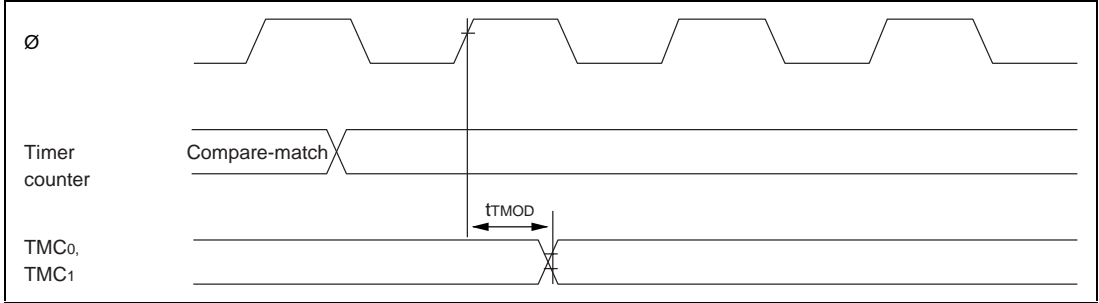

Figure 16.12 8-Bit Timer Output Timing
16.3.4 8-Bit Timer Timing	Figures 16.12 to 16.14